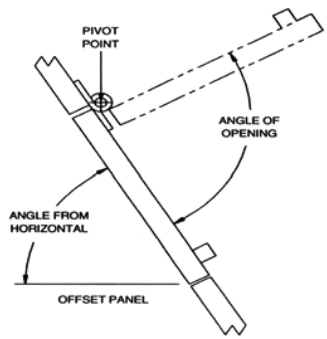

FIGURE 3
10) Total angle of opening (Fig 3): \_\_\_\_\_
11) Angle offset from horizontal plane (Fig 3): \_\_\_\_\_